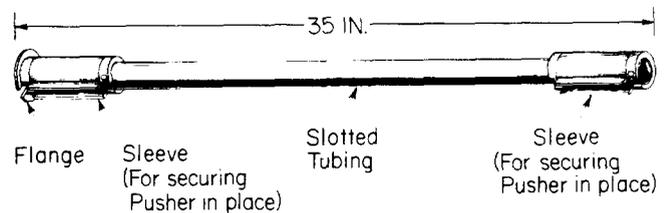

Fig. 7—C Cable Block Pusher
5.01 *C Cable Block Pusher*: The C cable block pusher (Fig. 7) is used with K cable blocks when lashing an initial cable by placing it on the suspension strand ahead of the cable lasher. The circular flange bears against the strand hook on the cable block and pushes the block along the strand in the direction the lasher is being pulled.